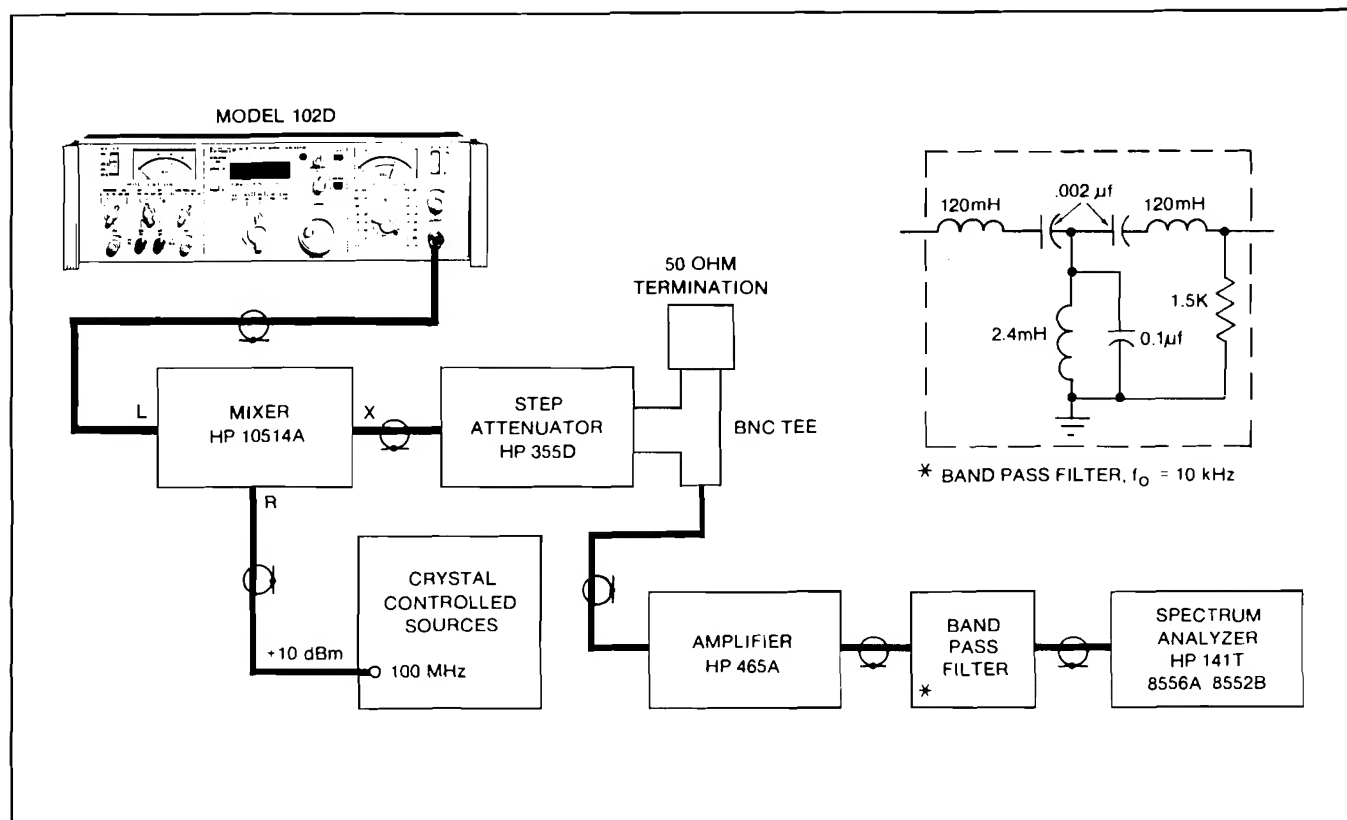

Figure 2-26 Single Sideband Total Noise Check, Test Setup
a. Connect the Model 102D and test equipment as shown in Figure 2-26.